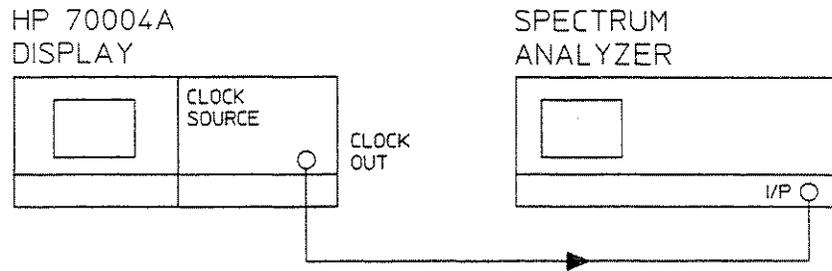

Figure 6-9. Harmonics and Subharmonics Test setup
1. The equipment is connected as shown in Figure 6-9.
1. With the equipment still connected as in Figure 6-9, setup the first row of conditions as specified in Table 6-7, that is, output frequency to 16.09375 MHz and frequency step to 1 MHz. Set the spectrum analyzer for a span width of 200 MHz.
1. With the equipment still connected as in Figure 6-9, setup the first row of conditions as shown in Table 6-8, that is, Carrier Frequency 16.09375 MHz, Frequency step 1 MHz, Span 0 - 20 MHz.